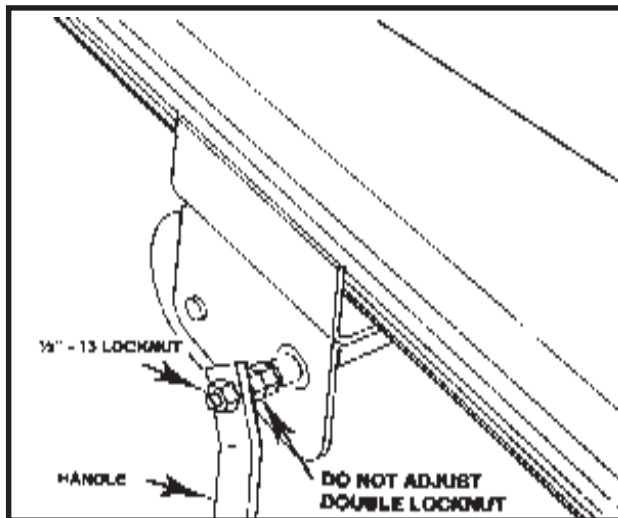

Figure No. 21
2. Fasten with 1/2" - 13 Hex. locknut (see **Figure No. 21**).